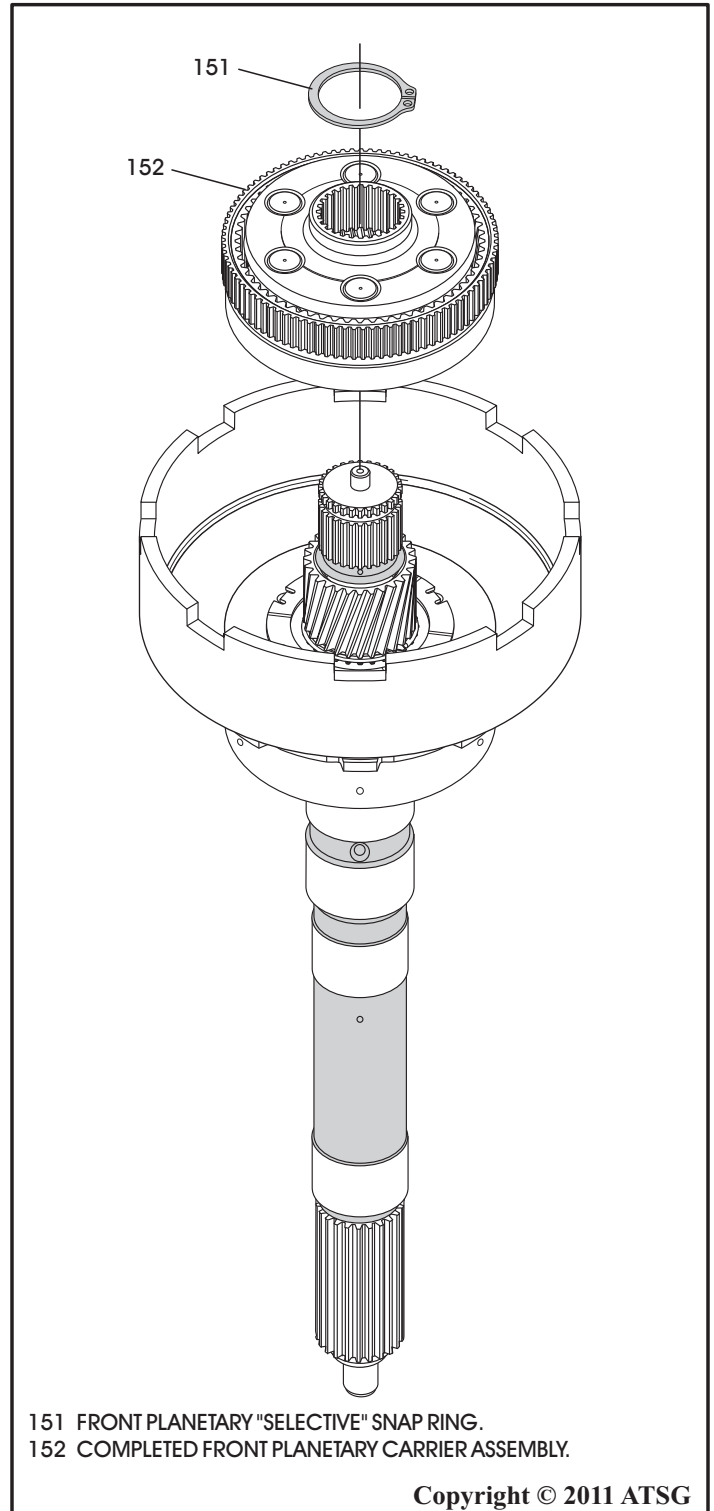

Figure 143
- 21. Install completed front planetary carrier and ring gear assembly, as shown in Figure 143.
- 22. Install the selective snap ring into groove of the intermediate shaft, as shown in Figure 143.